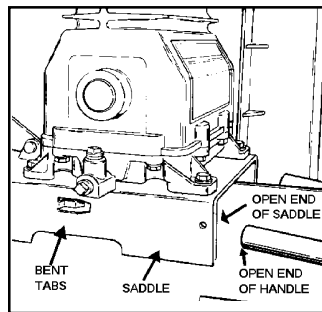
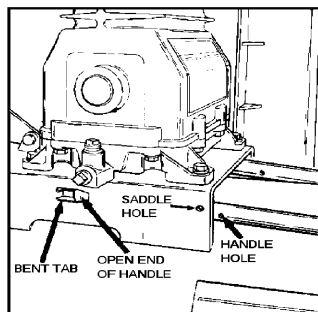

Fig. 3
Fig. 4
2. Insert the open end of the handle under the saddle (Fig. 3). Before attaching handle, you may have to pull the open ends of the handle apart so they fit tightly against the side of the saddle. Looking in from the open end of the saddle, position the handle toward the two bent tabs, on the inside walls of the saddle. **Slowly** push the open ends of the handle onto both tabs at the same time (Fig. 4). Continue pushing the handle into the saddle until the holes on the side of the saddle and handle are in line.